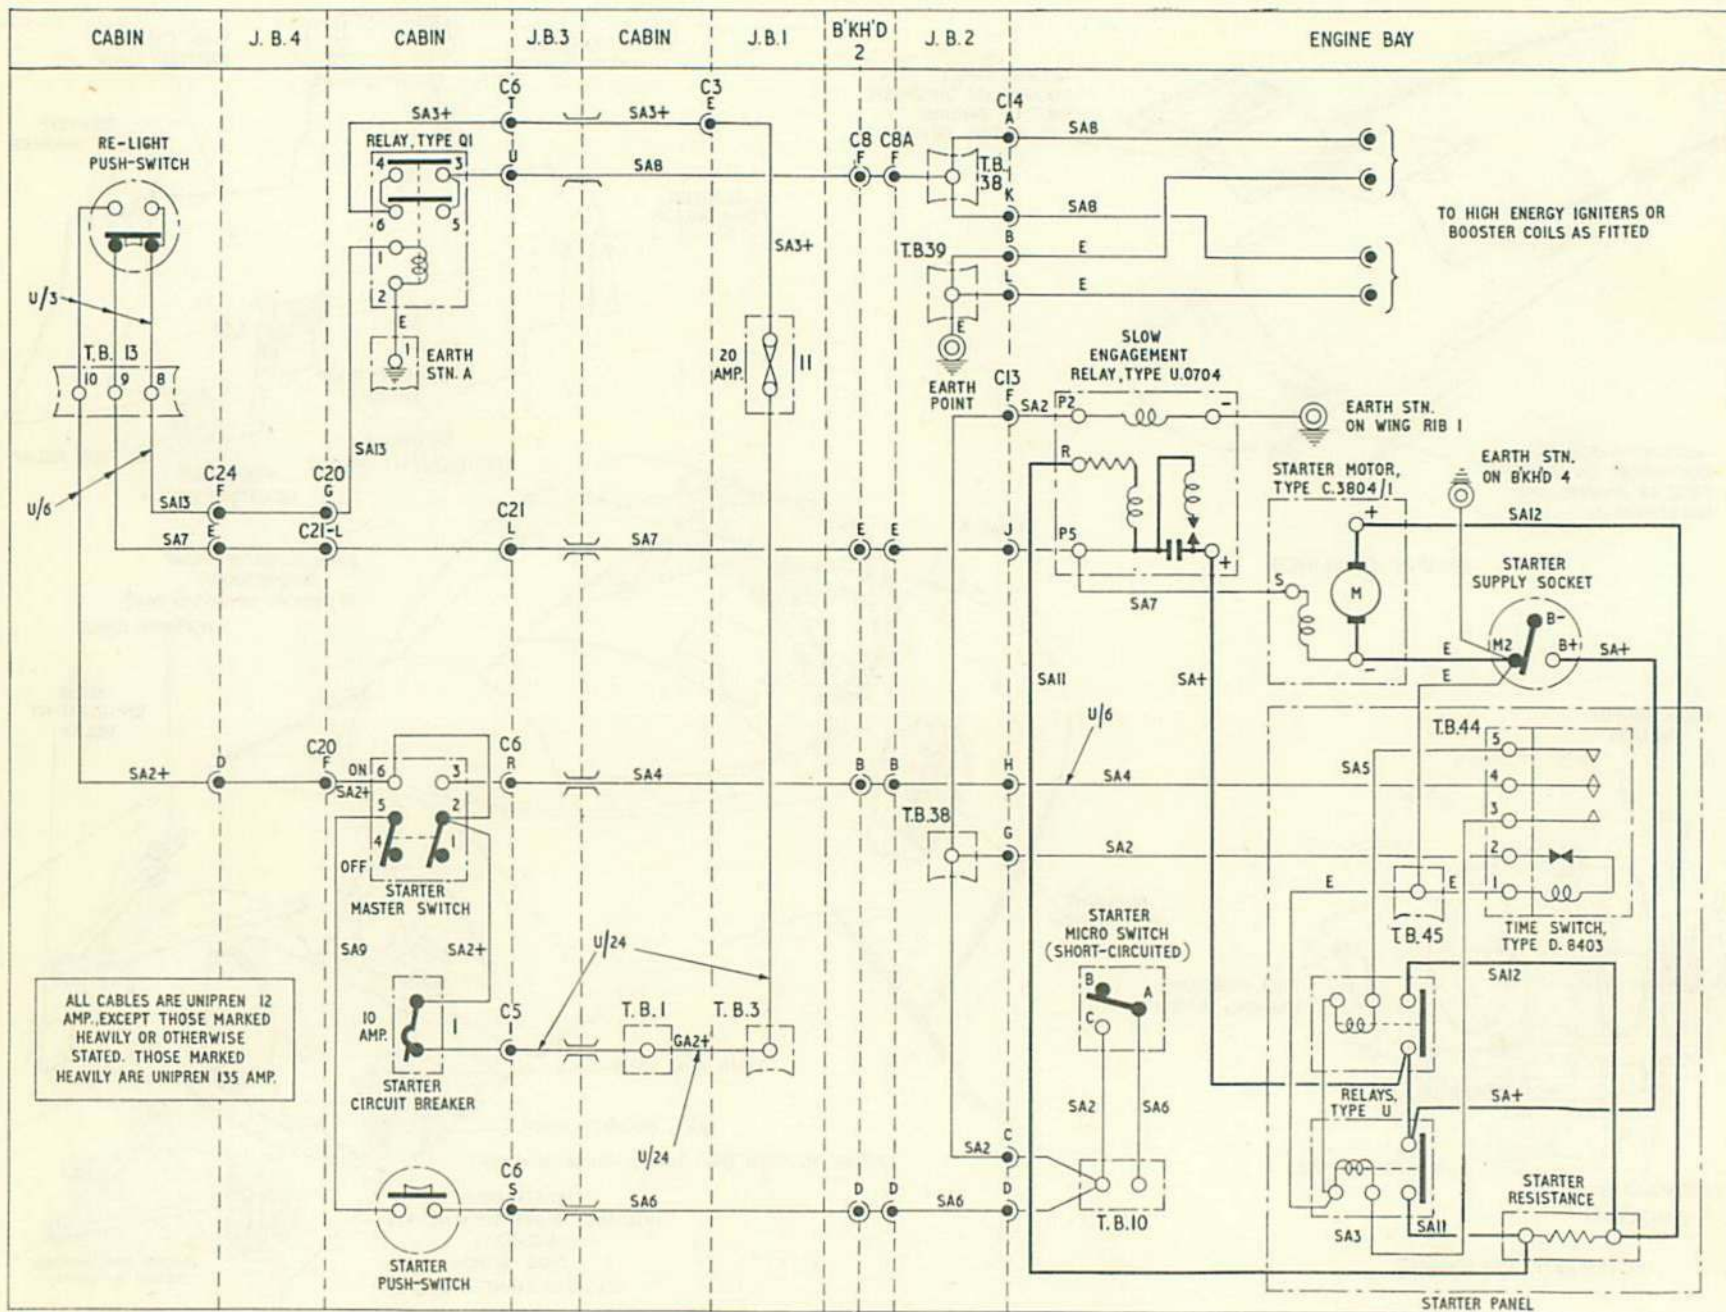

Fig. 2. Starter and ignition—SA
3. The motor is allowed to turn at three separate speeds, these speed variations being obtained by connecting resistors in series with the motor. Two such resistors are used, both being connected in circuit when the starting cycle is begun, as shown in fig. 2.